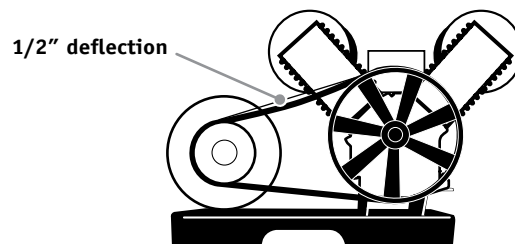

Figure 3: Proper belt tension
6. Install belts. There should be 1/2” slack for proper belt tension. See figure 3.
2. Check for proper belt tension. There should be 1/2 inch slack. Refer to figure 3, pg. 4.